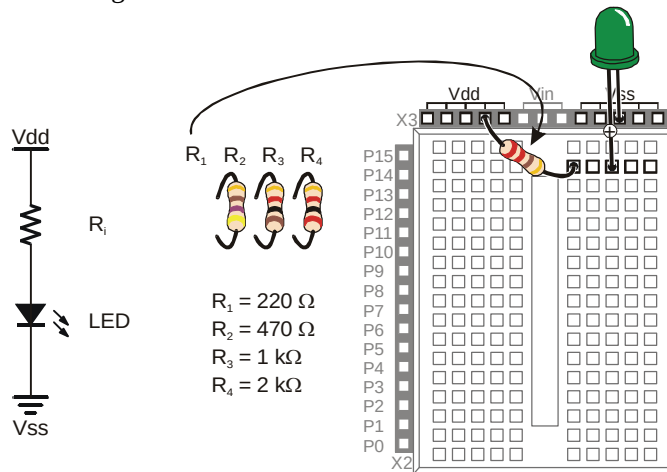

Figure B-1
The resistance value of R_i in Figure B-1 can be changed. Lower resistance allows more current through the LED, and it glows more brightly. Higher resistance values will cause the LED to look dim because they do not allow as much current to pass through the circuit.
- ✓ Build the circuit shown in Figure B-1 starting with a 220 Ω resistor.
- ✓ Start with the circuit shown in Figure B-1, but use a 1 k Ω resistor.